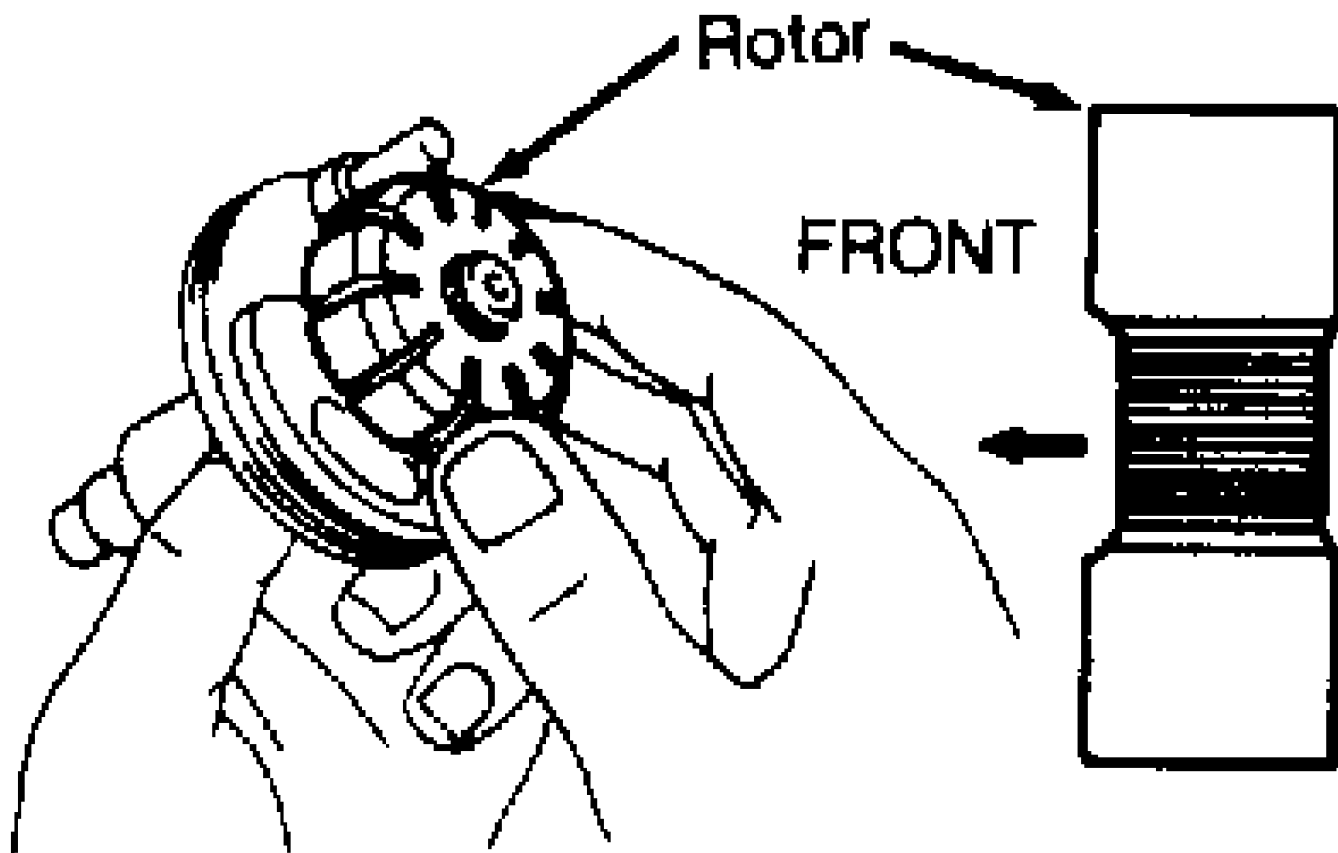

Fig. 5: Installing Power Steering Pump Rotor
1) Coat all sliding surfaces with ATF. Assemble front plate and rotor assembly onto pump shaft. See Fig. 5. Coat shaft seal with grease. Install longer pin into housing. Align pin and hole in front plate.